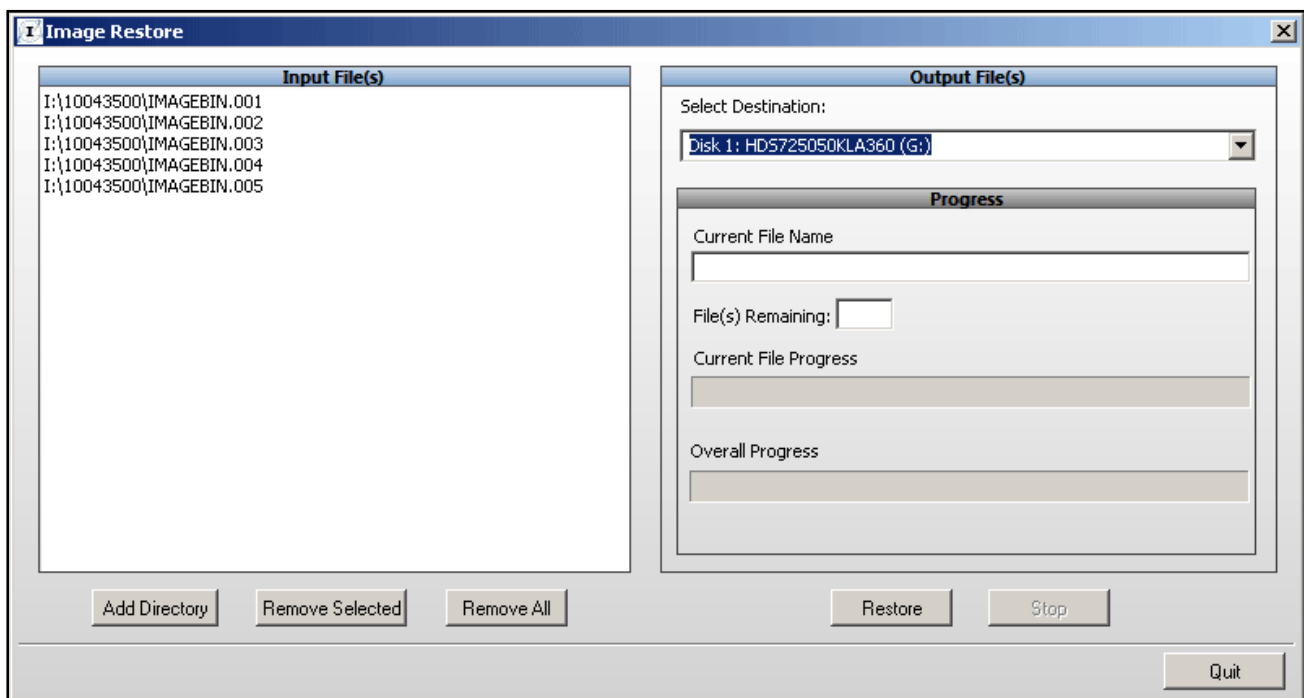

Figure 63 - Preparing to restore an image fileset
Figure 63 depicts the Image Restore screen after having selected an image fileset. The fileset in the example shown is made up of five (5) segments. Note that the destination drive for the restored image has been selected from the drop-down list of available drives.